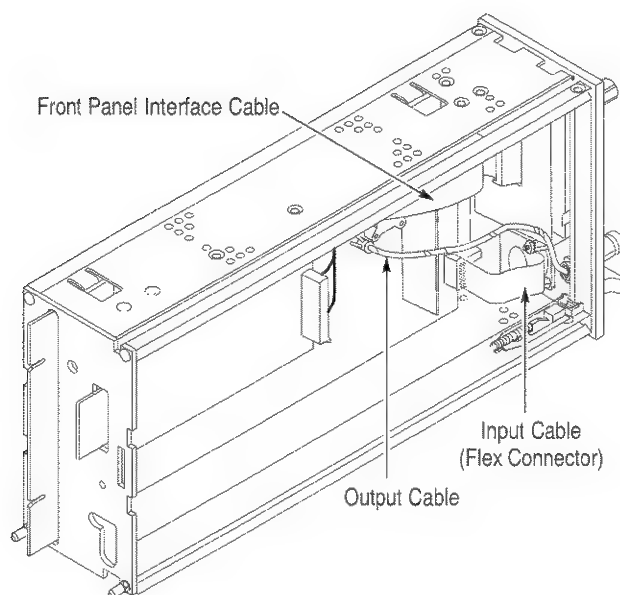

Figure 7-3: Location of Amplifier Interface Cables
3. Unplug the input, output, and front panel interface cables from the main circuit board. Figure 7-3 shows the location of these cables.